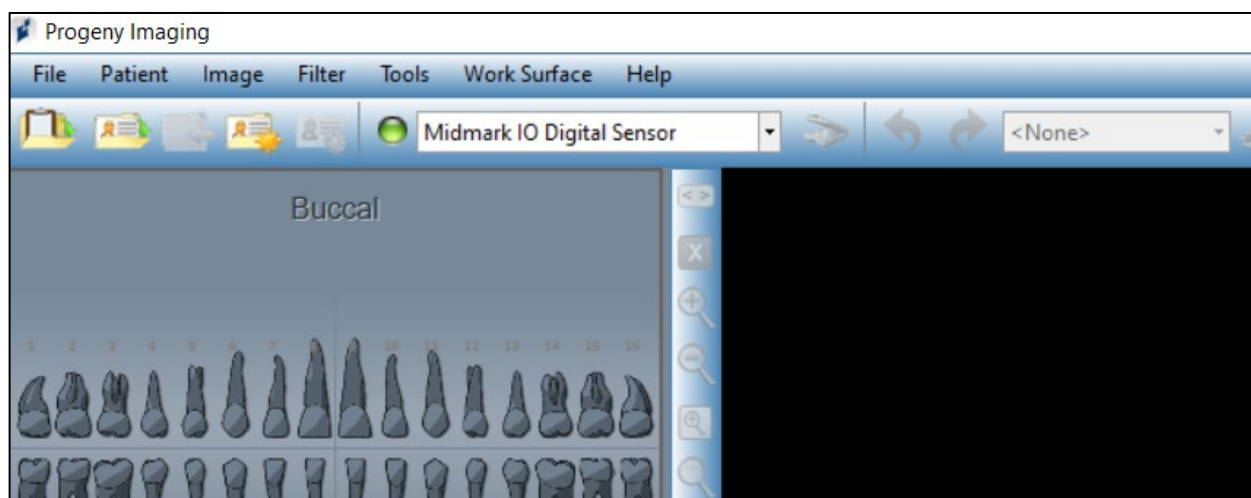

Figure 24. The circular device status indicator is now green.
- The circular device status indicator is now green. (See Figure 24 below.) This confirms that the Sensor is now connected to the computer and the calibration files are now downloaded.